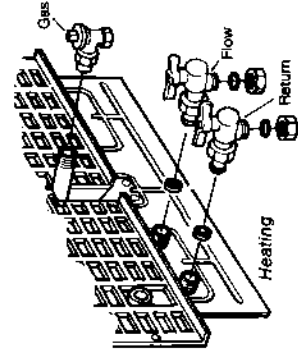

Fig. 12
Loosely fit (hand tight) the valves and fittings using the washers supplied (Fig 12)
5.6.1 Figs. 12 and 16 show the locations of the fittings.